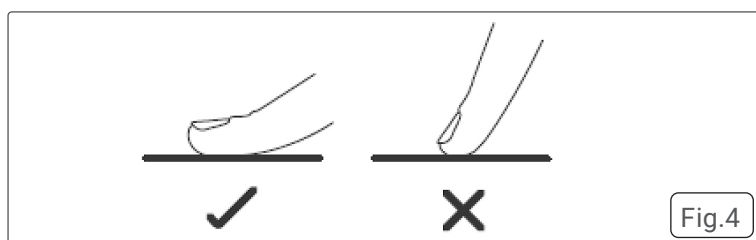

Fig.4
- The controls respond to light touch, so no pressure is required. Use the ball of your finger rather than the tip. A beep will sound each time a touch is registered. Ensure the controls are always clean and dry, and that no objects (such as utensils or cloths) are covering them. Even a thin film of water may make the controls difficult to operate. See fig.4.